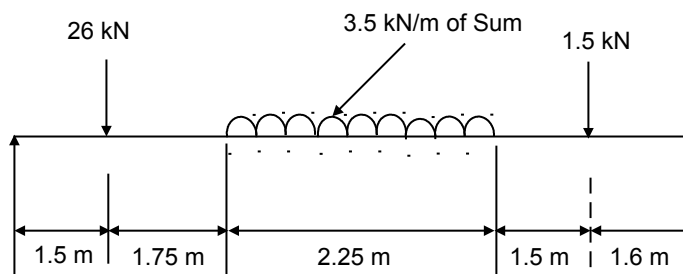

Figure 4
- Q.4 (a) Figure 4 indicates the loading pattern on a simple, supported beam. Draw SF and BM diagrams of the beam.